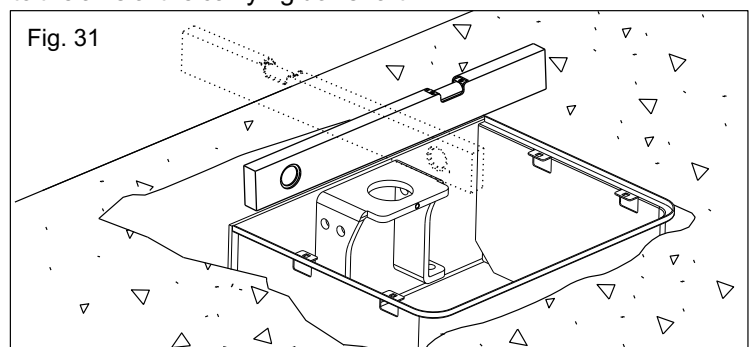

Fig. 31
10.3. Before concreting the carrying box, use a level to make it perfectly horizontal to the ground (Fig. 31) and perpendicular to the axis of the gate (Fig. 32).